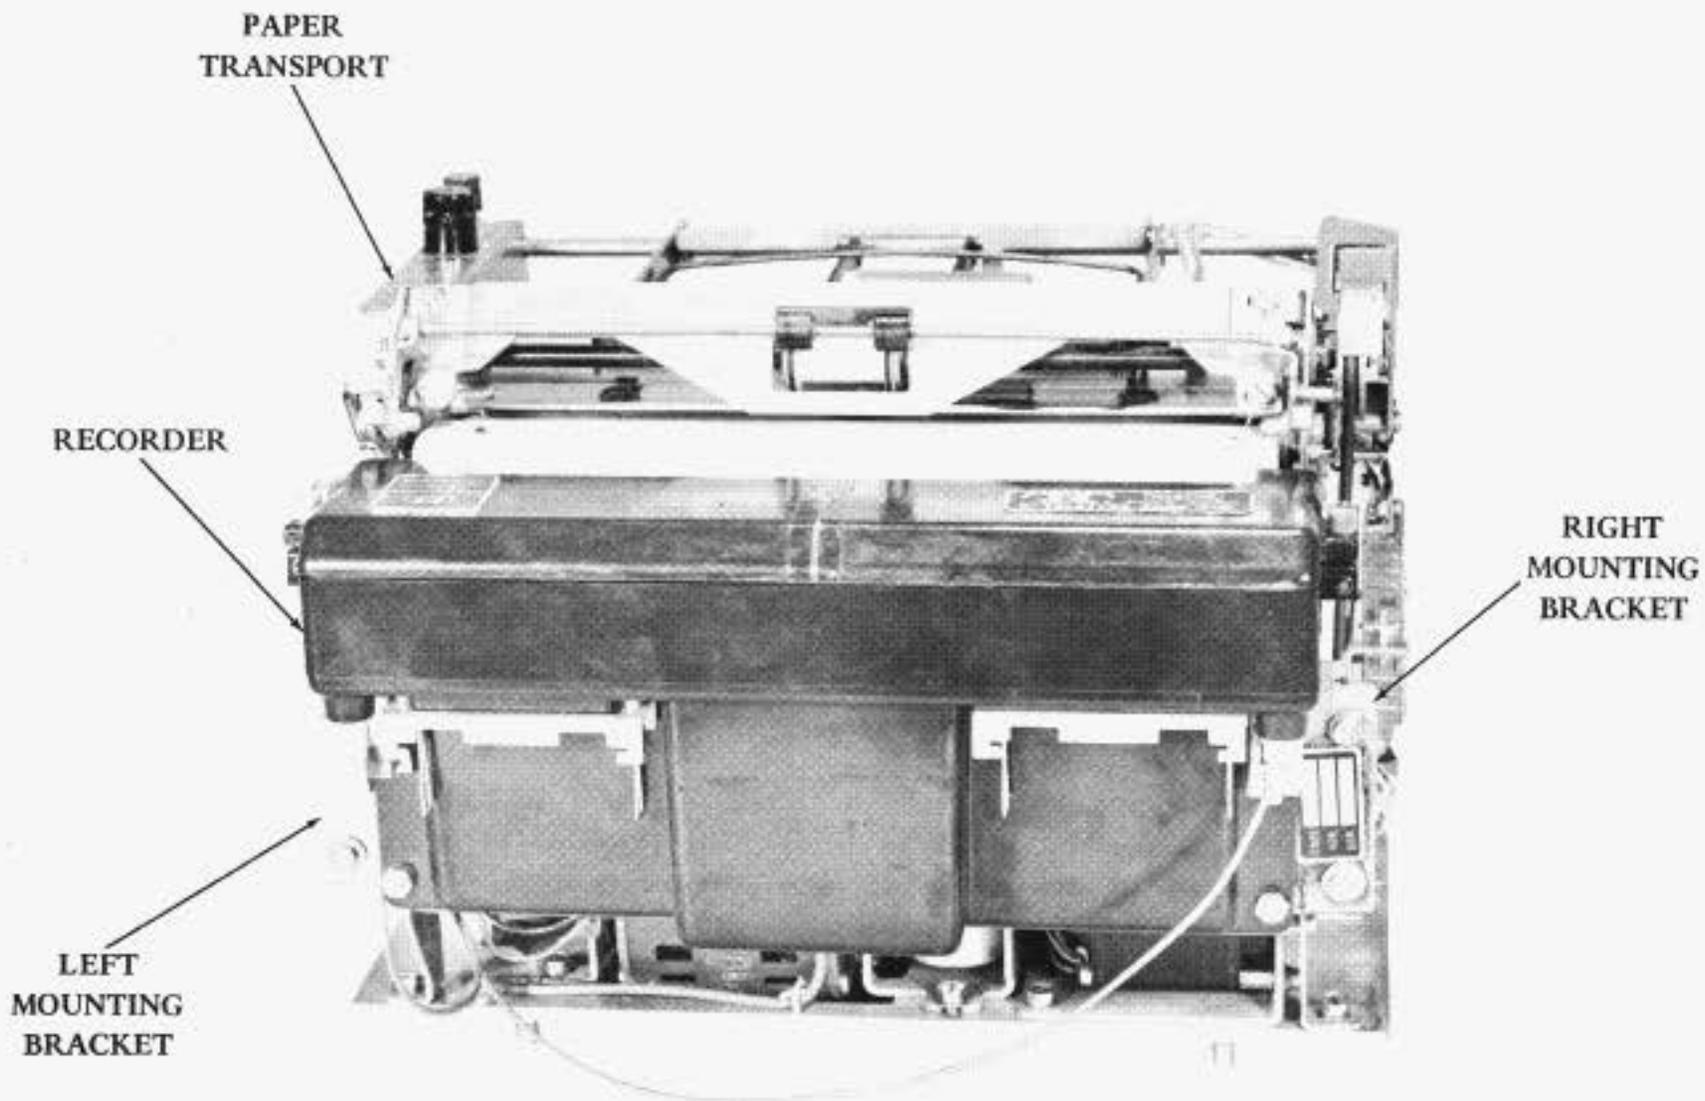

Figure 1 - Recorder/Paper Transport Assembly
2.01 The recorder is mounted on the front of the paper transport as shown in Figure 1. If the recorder alone is to be disassembled from the transport, it is not necessary to remove the transport from its mounting place in the base of the cover assembly on the printer cabinet. However, to remove the transport for further disassembly, it is advisable to remove the complete recorder/paper transport assembly from the base, then separate the recorder from the transport before attempting any further disassembly of the transport. See Section 592-820-702TC for instructions on removing the recorder/paper transport assembly.